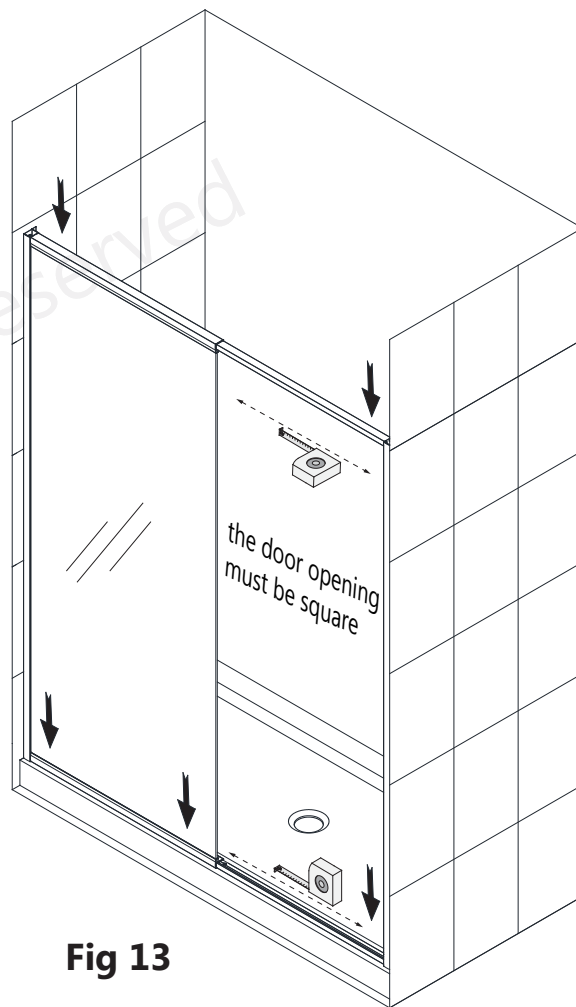

**Fig 13**
**13.** Check and adjust the door opening for square and make certain that the entire assembly is tight to the threshold. **(Fig 13)**